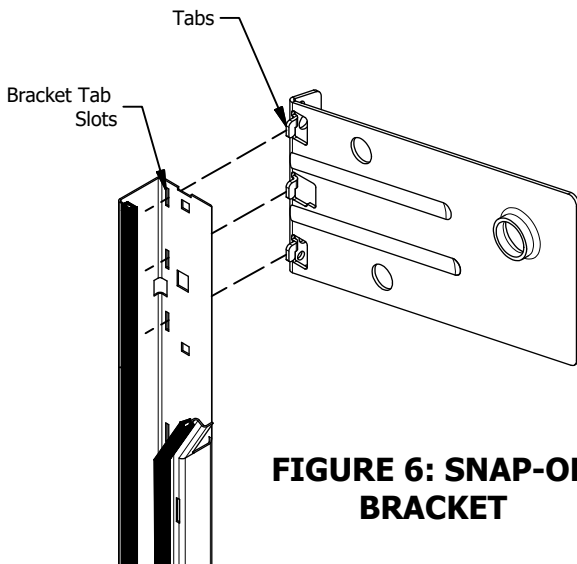

FIGURE 6: SNAP-ON BRACKET
- ▶ Bring top end of guide in alignment with bracket and insert tabs on bracket into tab slots in guide. **(Figure 6)**